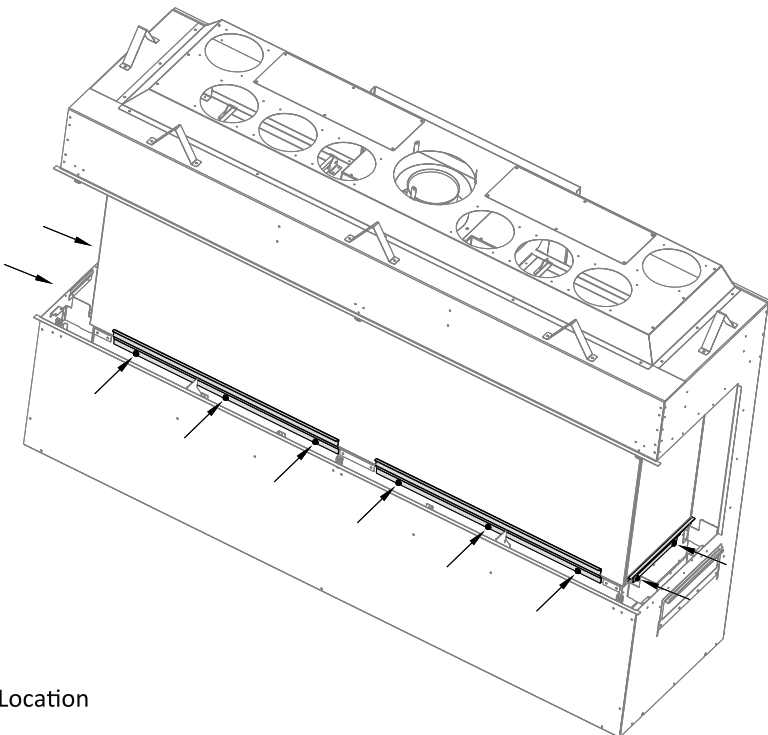

Figure 4.5 - Glass Bracket Location
3. Remove the 7/16" nuts that secure the upper glass bracket and remove this bracket for the front glass as shown in Figure 4.5. Save this bracket to reinstall the glass.
4. Loosen the 7/16" nuts that secure the lower glass brackets as shown in Figure 4.5. You do not need to remove these brackets.
4. Secure the remaining side firebox glass bracket with the 7/16" nuts. Tighten all the 7/16" nuts that secure the upper and lower glass brackets as shown in Figure 4.5.